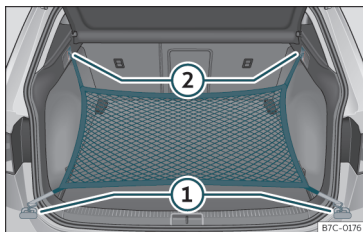

Fig. 118 In the luggage compartment: rings (1) and hooks (2) for attaching the net bag.
- Secure the short net hooks to the fastening rings»» **Fig. 118** (1) »» ⚠. The bag zip should be facing upwards.
- Secure the straps in the bag hooks (2).